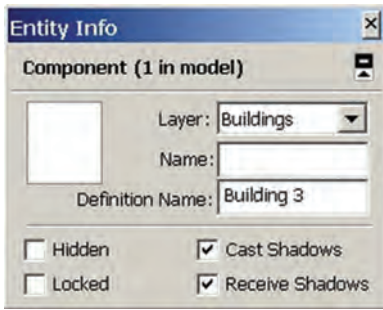

Fig. 10-17: The Entity Info menu with the Cast Shadows option
- ▶ You can determine which object is casting the shadow on the camera's vantage point. Select that object (typically, this will be a Building or Tree component behind or directly adjacent to the scene position) and right-click to open Entity Info. Under Entity Info, uncheck the Cast Shadow box. The object will not cast shadows when they are turned on, so it will not distort the camera (Fig. 10-17).